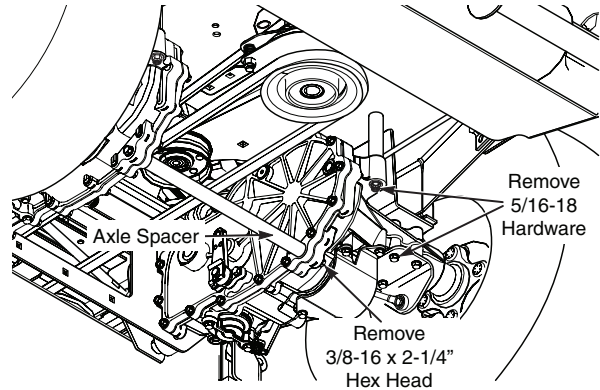

Figure 2-1. Remove Hardware
2. Using a 9/16" wrench, remove the 3/8-16 x 2-1/4" hex head bolt used to secure the axle spacer to the right transaxle assembly. Be sure to retain the bolt, lockwasher and flatwasher. This hardware will be reused in step number 6. See Figure 2-1.
3. Use two 1/2" wrenches to remove the two (2) 5/16-18 hex head bolts, 5/16-18 elastic stop nuts and 5/16" flatwasher shown in Figure 2-1. Be sure to retain the flatwasher. This will be reused in step number 4.